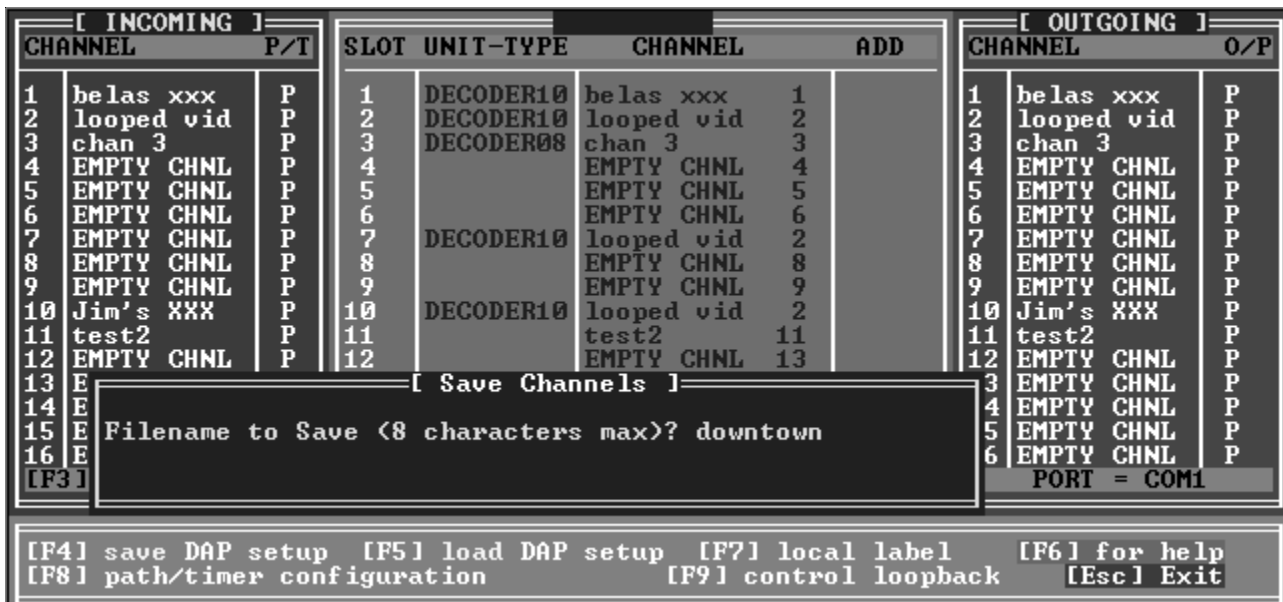

Figure DLP10-1. DAP Control Screen with "Save Channels" Dialog Box Opened
3. The Save Channels dialog box is displayed over the DAP Control Screen, as shown in Figure DLP10-1. Type a file name for the DAP setup. The file name must be one to eight characters long.